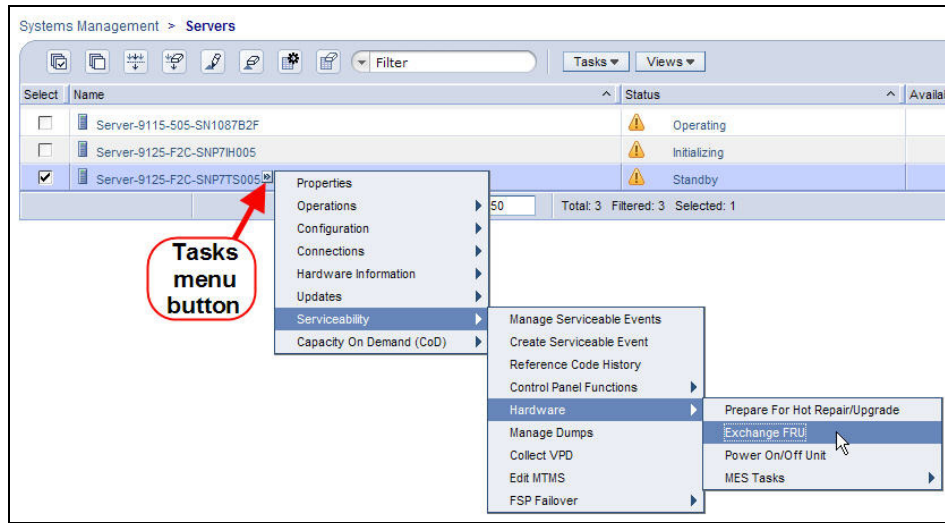

Figure 6 Exchange FRU Panel
STEP 12 From the **Tasks** menu *select Serviceability -> Hardware -> Exchange FRU*. See Figure 6.